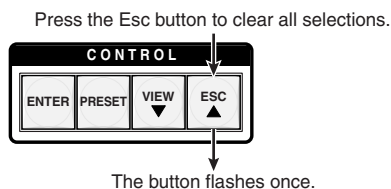

Figure 3-48 — Clear all selections
1. Press and release the Esc button (figure 3-48).